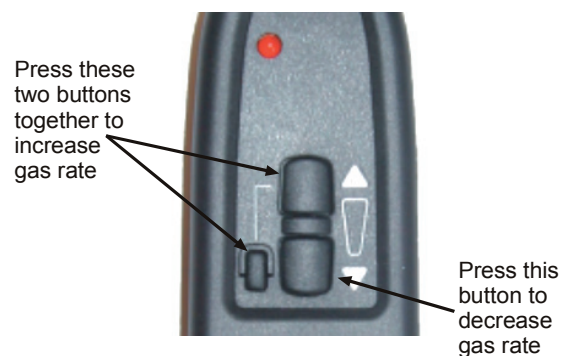

Figure 12 - Handset Operation
7. Using the HANDSET (as shown in Figure 12) press and hold **both the top and the small button together** until the main burner goes to full rate and clicking can be heard from the valve. During this process the main burner will ignite from the pilot.